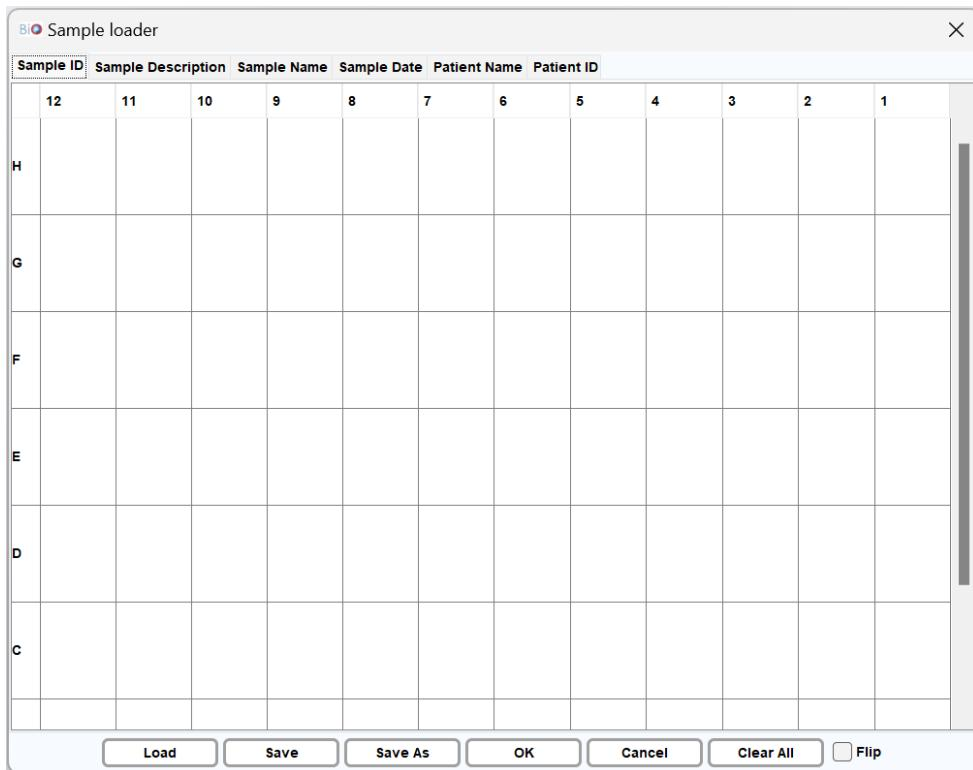

Figure 19 Sample Loader Window
Notes for samples can be edited on the Sample Loader window (Figure 19). After clicking on **Edit**, the Sample Loader window will appear on the screen. Use the **Load** button to enter multiple sample descriptions, the **Clear All** button to delete all sample information, and the **Save** button to save the edited sample information. After entering the required information such as time and serial number, click **OK** to start the process.
***Note:** The information of the samples in the excel sheet must follow the sequence shown in Figure 19. An example file can be found in the installation directory. The default workspace is C:\Users\<username>\Q-Analyzer\Sample.